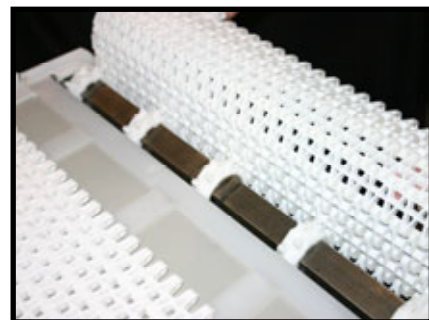

Figure 4
d. Pull the belt tight down the length of the slider bed and position the splice halfway down the length of the Drive Frame. Wrap the belt halfway over the sprockets (**Figure 4**), and grip the belt from the outside to engage it with the fixed sprocket. Next, adjust the floating sprockets until they are engaged as well. All of the sprockets must be engaged before the belt can wrap all the way around the pulley.